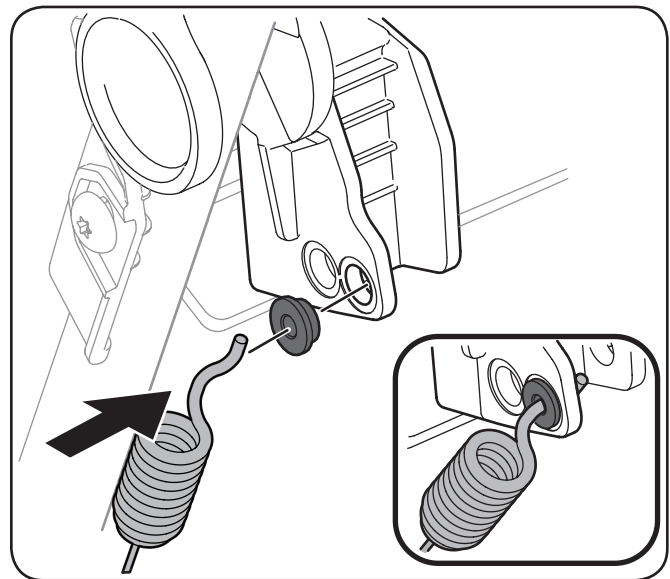

Figure 6-5
4. Replace bushing in the lower hole and reattach the cable through the bushing and lower hole in the handle. See Figure 6-5.